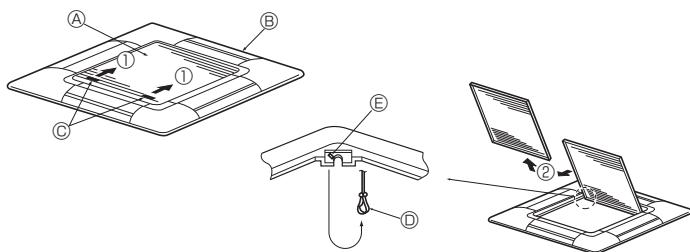

Fig. 8-3
④ Main unit
⑤ Ceiling
⑥ Gauge (Accessory)
⑦ Ceiling opening dimensions
8.2.1. Removing the intake grille (Fig. 8-3)
- Slide the levers in the direction indicated by the arrow ① to open the intake grille.
- With the intake grille in the "open" position, remove the hinge of the intake grille from the grille as indicated by the arrow ②.